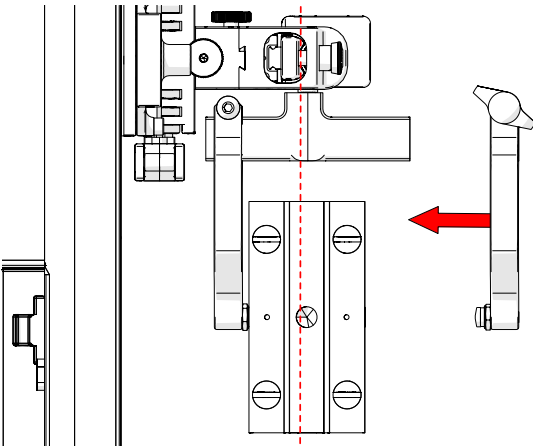

Fig. 115 - Align probe with yoke
6. Align the middle of the wedge with the centre of the yoke (Fig. 115).
7. Tighten both the probe holder adjustment knob and the arm clamp screw (Fig. 115) while ensuring the wedge remains centred with the yoke.